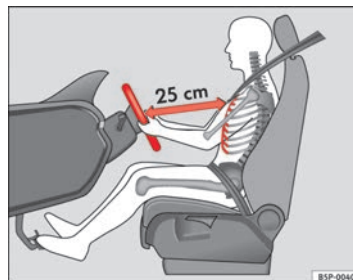

Fig. 134 Proper sitting position for driver
- Adjust the steering wheel until the correct position is set ⇒ fig. 134.
- Adjust the driver seat or steering wheel so that there is a distance of at least 25 cm between the steering wheel and your chest ⇒ fig. 134. If you fail to observe the minimum distance, the airbag will not protect you. Risk of fatal injury.